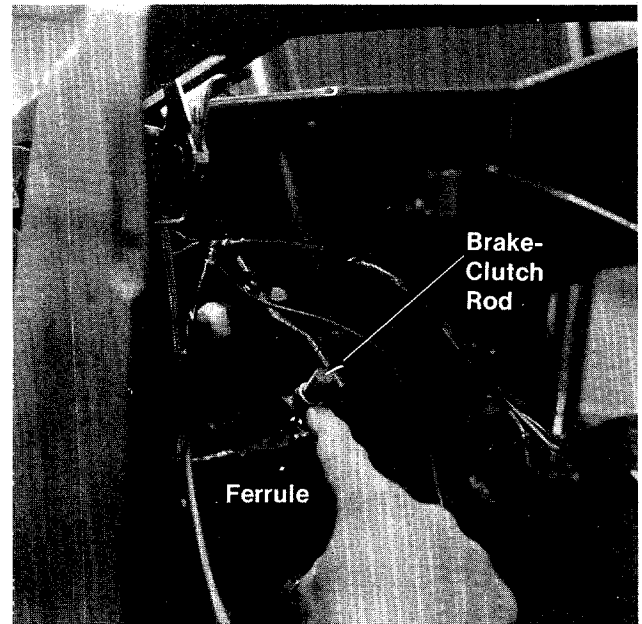

FIGURE 18.
4. Tighten the nut on the brake clutch rod located next to the steering column until it just touches the ferrule. See figure 18.